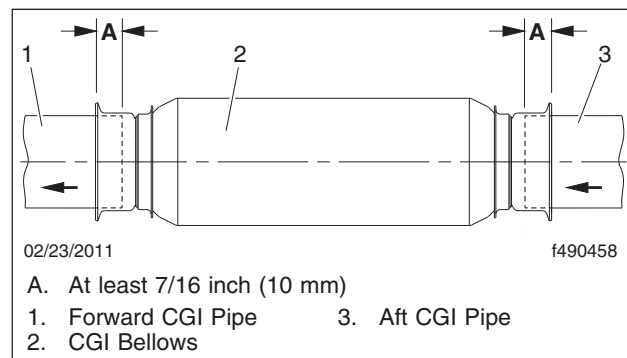

Fig. 11, CGI Bellows Installation
- 12. Slide the new bellows onto the aft CGI pipe as far as it will go. See Fig. 11, Ref. A. Measurement A should be at least 7/16 inch (10 mm) past the face of the flange.
16. Using the yellow marks, center the bellows between the exhaust pipes. Verify that the pipe is inserted at least 7/16 inch (10 mm) past the face of the flange. See **Fig. 11**, Ref. A.